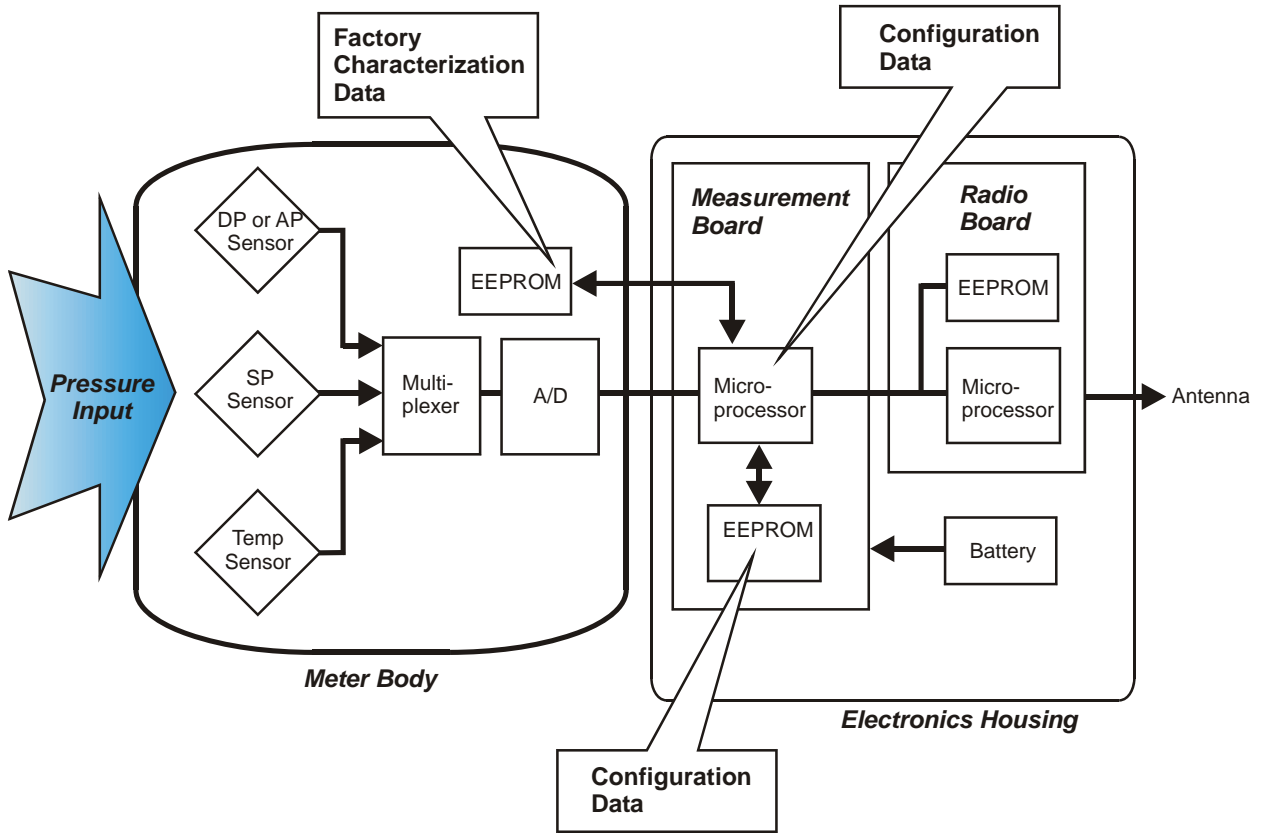

Figure 1 XYR 6000 Functional Diagram
The transmitter measures the process pressure and transmits a digital output signal proportional to the measured variable. Its major components are an electronics housing and a meter body as shown in Figure 1 (a typical differential pressure model transmitter).
The Process Variable (PV) is available for monitoring and alarm purposes. Available PV update rates: 1, 5, 10, 30 seconds and are set on Wireless Builder. Slower update rates extend battery life. The meter body temperature is also available as a secondary variable for monitoring. Figure 1 shows a block diagram of the XYR 6000 Pressure transmitter's operating functions.